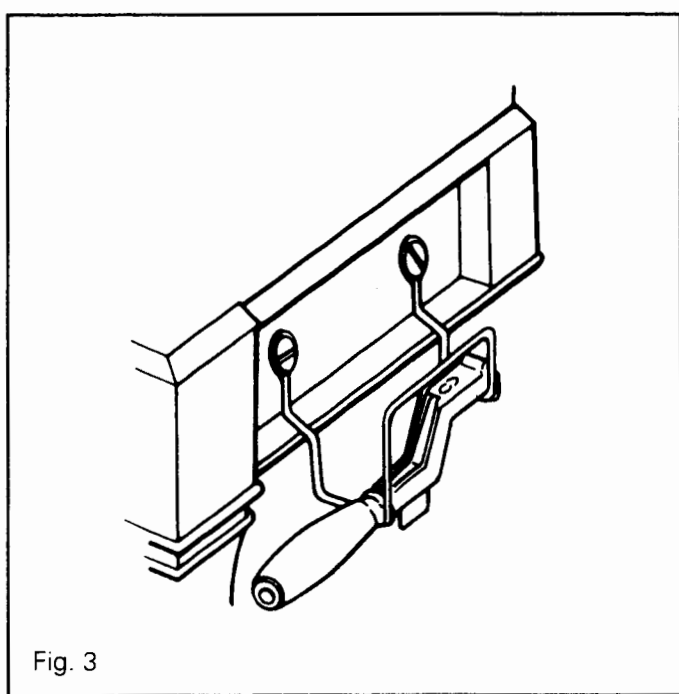

Fig. 3
- g. Replace operating tool on its support cradle when not in use. See Fig.3.